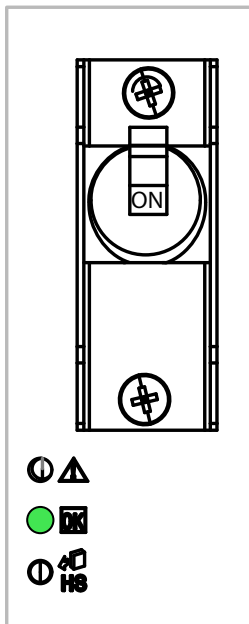

Figure 13. PEM-A / B 'OK' LED
23. Verify the **OK** LED on PEM-A and PEM-B of the VMG-6 is green as shown in Figure 13.